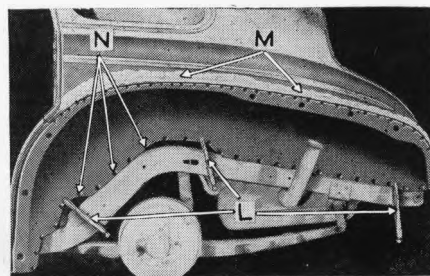

FIG. 10
2. Position the wheelhouse in place and hold at the bottom with vise grip pliers or clamps, "L" Fig. 10.
above the wheelhouse, "M" Fig. 10. This will help prevent damage to the painted surface and also localize the heat during welding operations.
12. On the outside of the body, tack weld the lower skirt of the wheelhouse to the strip "K," Fig. 6, as shown at "N," Fig. 10.